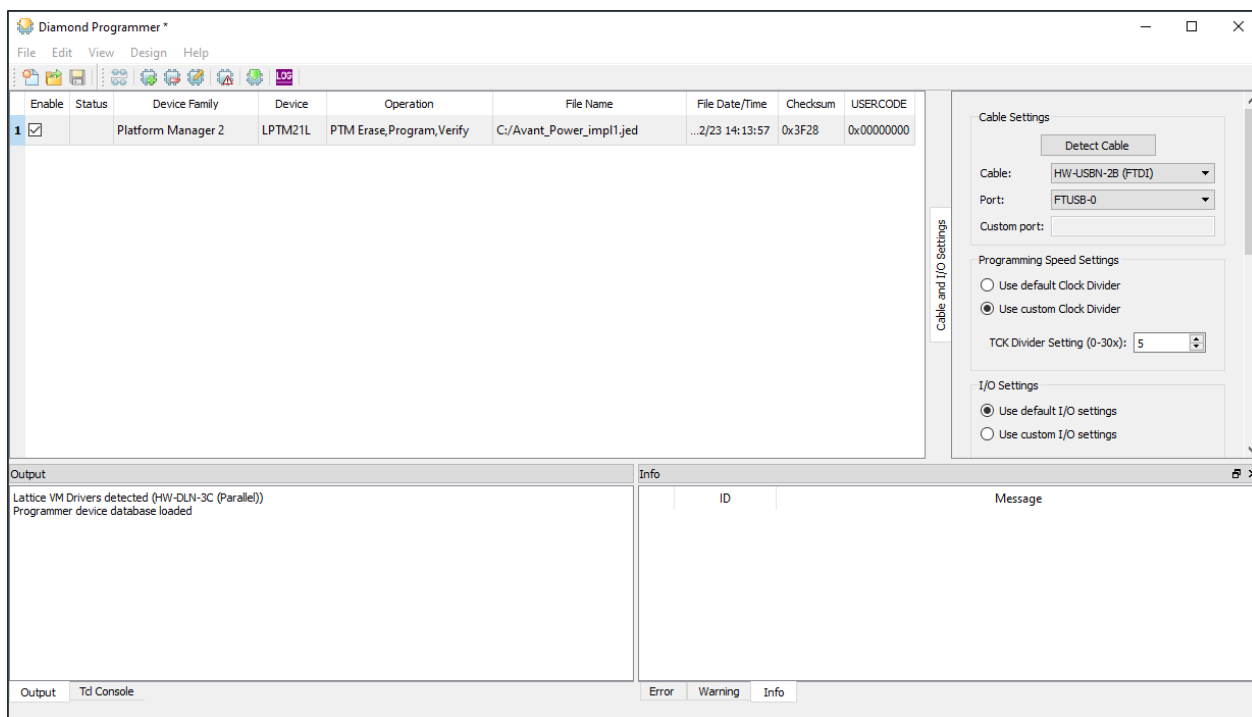

Figure 4.1. Lattice Radiant Programmer
3. The Lattice Diamond programmer interface opens as shown in Figure 4.1.